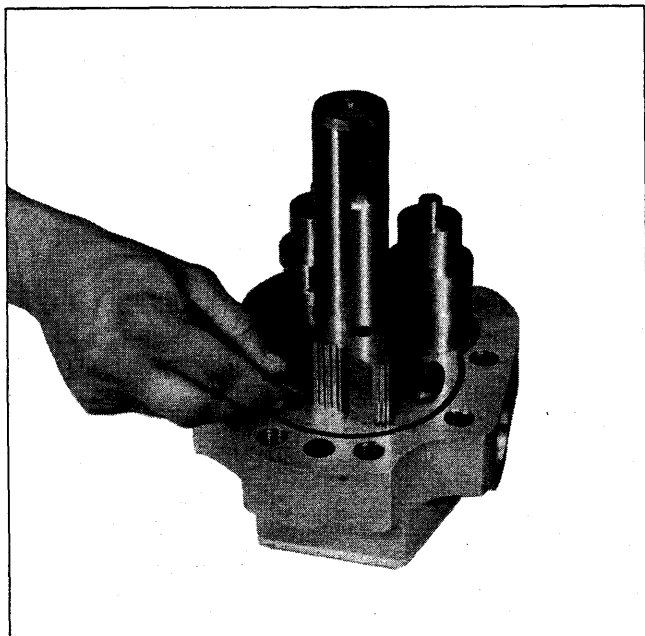

FIGURE 5
6.) Remove seal rollers (Fig. 5). The motors have two sizes. The seal rollers in the rotor tip are about 1/32nd dia. larger than those behind the seal plates.